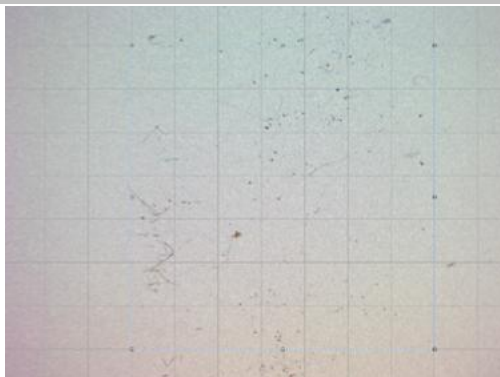
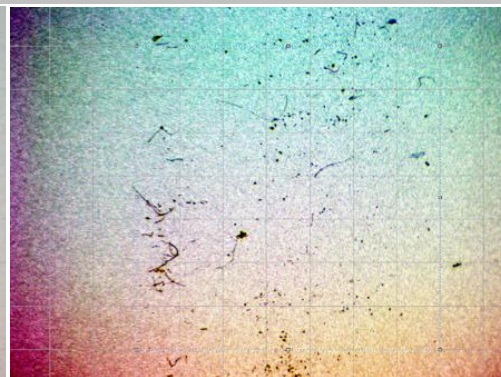

Figure 36. Image select rectangle
Figure 37. Vignetting
- 2) Draw a rectangle over the live image as shown in Figure 36. This rectangle should follow the gridlines on the screen; excluding 1 row of boxes on the top and on the bottom, 2 columns on the right, and 3 columns on the left.
Note: Drawing the rectangle is a way to work around vignetting, which has a huge impact on counting. Figure 37 is the same view as Figure 36, just with higher contrast to highlight vignetting. Drawing a rectangle around the least affected area will crop the worst sections when taking an image.